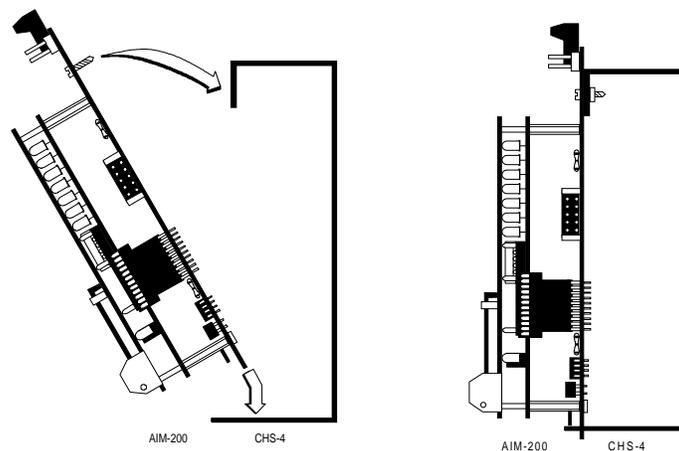

Figure 3-1: Mounting the AIM-200
- 3) Fasten the AIM-200 to the top of the CHS-4 using the two captive screws in the top corners of the module. Refer to Figure 3-1.